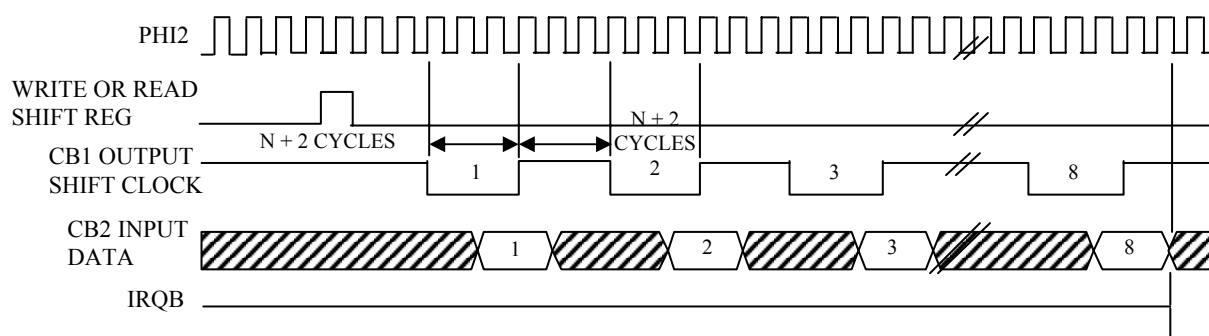

Figure 1-6 Shift In - Counter T2 Control
The Shift Register (SR) performs bi-directional serial data transfers on line CB2. These transfers are controlled by an internal modulo-8 counter. Shift pulses can be applied to the CB1 line from an external source, or (with proper mode selection) shift pulses may be generated internally which will appear on the CB1 line for controlling external devices. Each SR operating mode is controlled by control bits within the ACR. See Table 1-10 for control bit information. See also Figures 1-6 through 1-12.
1.12.2 Shift In - Counter T2 Control (001)
In this mode, the shifting rate is controlled by the low order eight bits of counter T2. Shift pulses are generated on the CB1 line to control shifting in external devices. The time between transitions of the CB1 output clock is determined by the PHI2 clock period and the contents of the low-order T2 latch (N). Shifting occurs by writing or reading the SR. Data is shifted into the low-order bit first, and is then shifted into the next higher order bit on the negative-going edge of each clock pulse. Input data should change before the positive-going edge of the CB1 clock pulse. This data is then shifted into the SR during the PHI2 clock cycle following the positive-going edge of the CB1 clock pulse. After eight CB1 clock pulses, IFR2 will set and IRQB will go to a Logic 0. See Figure 1-6.